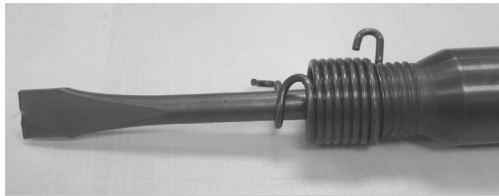

Fig. 2
1. Select the appropriate Chisel Bit. With your thumb, put counterclockwise pressure on the spring and insert the shank of the chisel bit into the Cylinder. Release the spring. Holding the Air Hammer firmly, pull the chisel bit hard to make sure it locked into place. See Fig. 2.